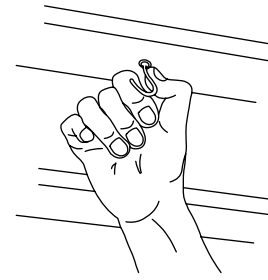

Fig. 3 — Install Fastening Hooks
1. Place fastening hooks on the strapping board or the floor joists. See Fig. 3.